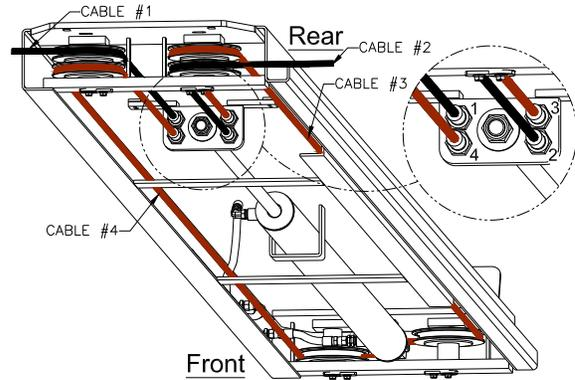

Fig 10 – Cable Layout
15) At the rear of the power runway, continue routing cables #3 & #4 to the front of the power runway sheaves, **Fig 10**.